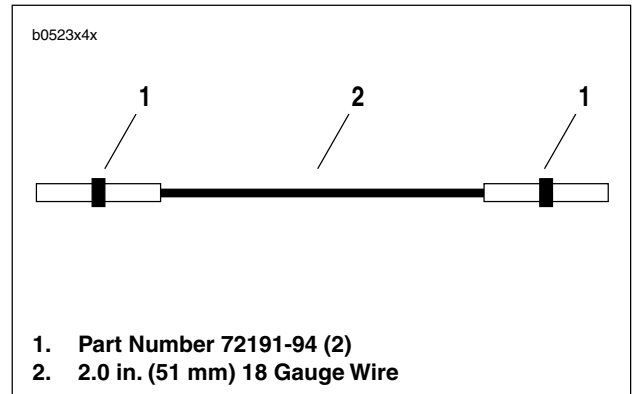

Figure 4-10. Diagnostic Test Wire
- a. See Figure 4-10. Create diagnostic test wire from parts shown.